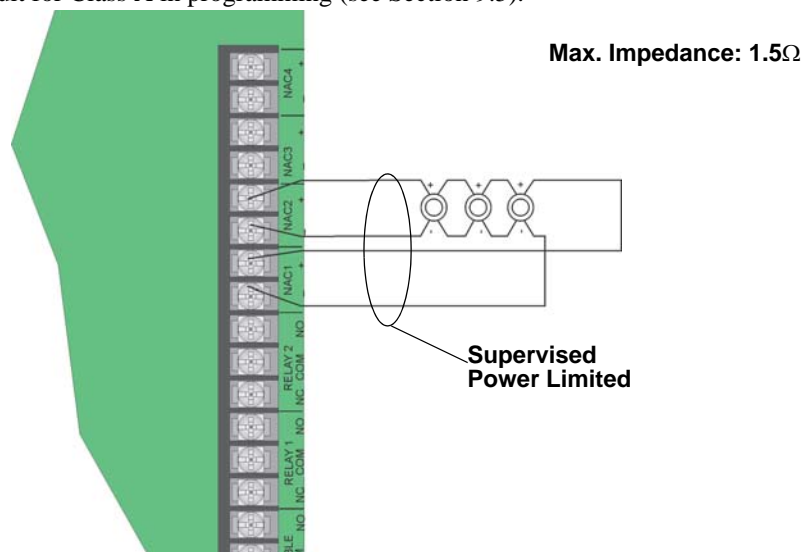

Figure 4-41 Class A Notification Appliance Circuit Configuration
1. Wire the Class A notification appliances as shown in Figure 4-41.